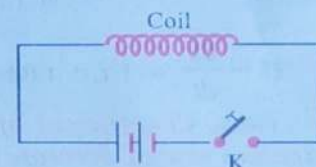

Figure 20
Consider a coil (Figure 20) connected to a battery through a key (K).